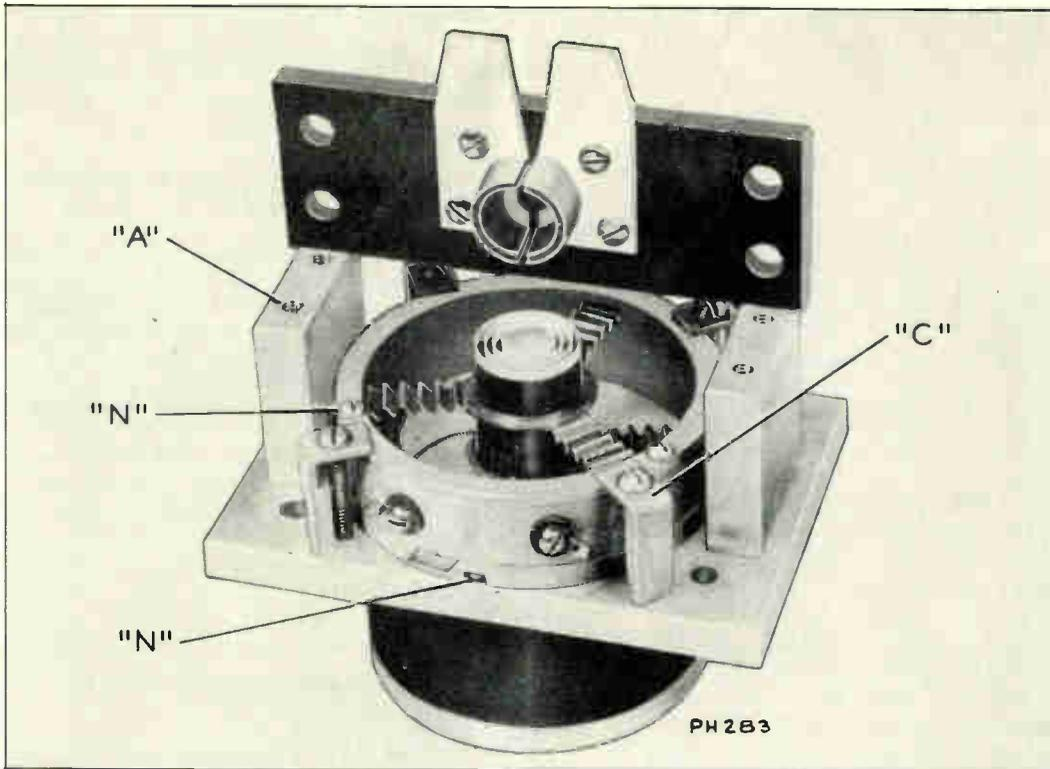

Figure 15—Modulation Capacitor
2. Remove the bakelite top plate by removing the four bolts ("A" in Figure 15). Place the top plate to one side; be careful not to damage the stator plates.
4. Loosen the four clamps, "C" in Figure 15, and, with the coil energized, shift the coil-support ring slightly until the noise disappears. Tighten the ring clamps, and make sure that the coil is not rubbing after the clamps are tightened. **DO NOT LOOSEN ANY OF THE SUPPORT SCREWS ("N"), FOR THE STRAP CLAMPS OR THE CAPACITOR WILL PROBABLY BE DAMAGED BEYOND REPAIR.**